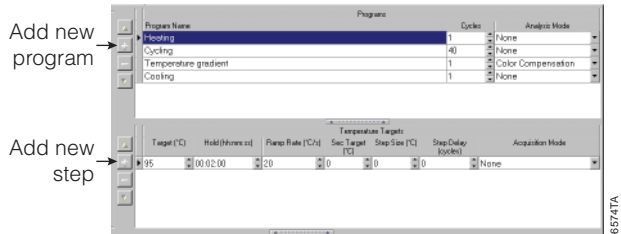

Figure 1. Heating program.
6. Change “Cycles”, “Analysis Mode” and “Temperature Targets” for the program to the values indicated in Figure 1. New steps are added by selecting the lower “+” button.